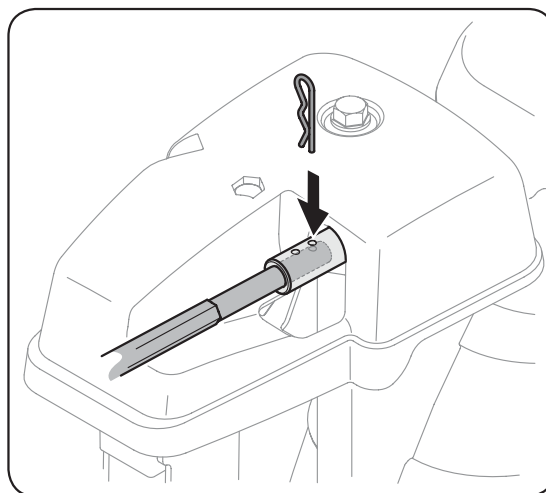

Figure 3-9
7. Secure the round end of the hex rod to the chute control assembly with the cotter pin removed earlier. See Figure 3-9.